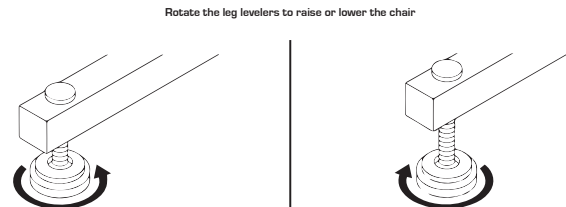

Figure 3.2 Leg Levelers
Leg Levelers: Manually rotate up or down in order to stabilise the chair before use (Fig. 3.2).
2. Adjust the leg levelers to stabilise the lift chair (Fig. 3.2).